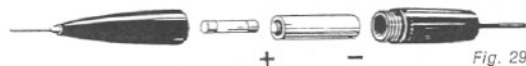

Fig. 29.
Note: If Ohmmeter Adjust Knob will not bring pointer over the '0' mark, check & replace battery. See Fig. 29 on page 15.
5. check & replace battery. See Fig. 29 on page 15.
Use Type B-1, Type 'AA', 1.5V, Type #915 or equal. Insert battery with (+) side facing fuse in the lower section of OHMPROBE® plastic housing as shown in Fig. 29. After replacement is made, assemble the two halves of the OHMPROBE® plastic housing.